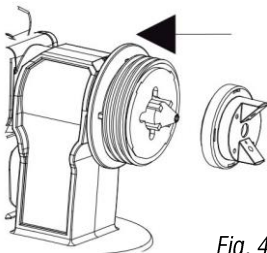

Fig. 4
4. Screw on the union nut (Fig. 4).